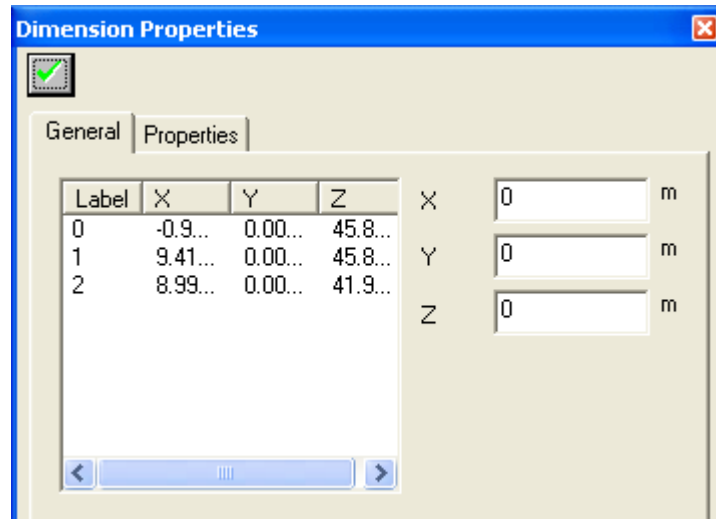

FIGURE 2.7-3 DIMENSION PROPERTIES DIALOG BOX
- Double-click on the dimension line. Its dialog box will open (**Fig. 2.7-3**).